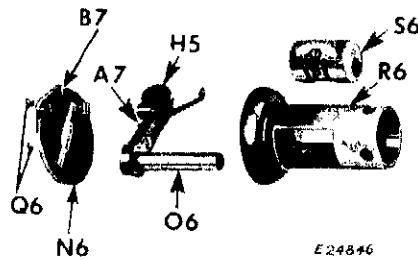

Fig. 133. Exploded View
See Figs. 133 and 134.
1. Slip eccentric **S6** into bearing sleeve **R6**, as shown in Fig. 133.